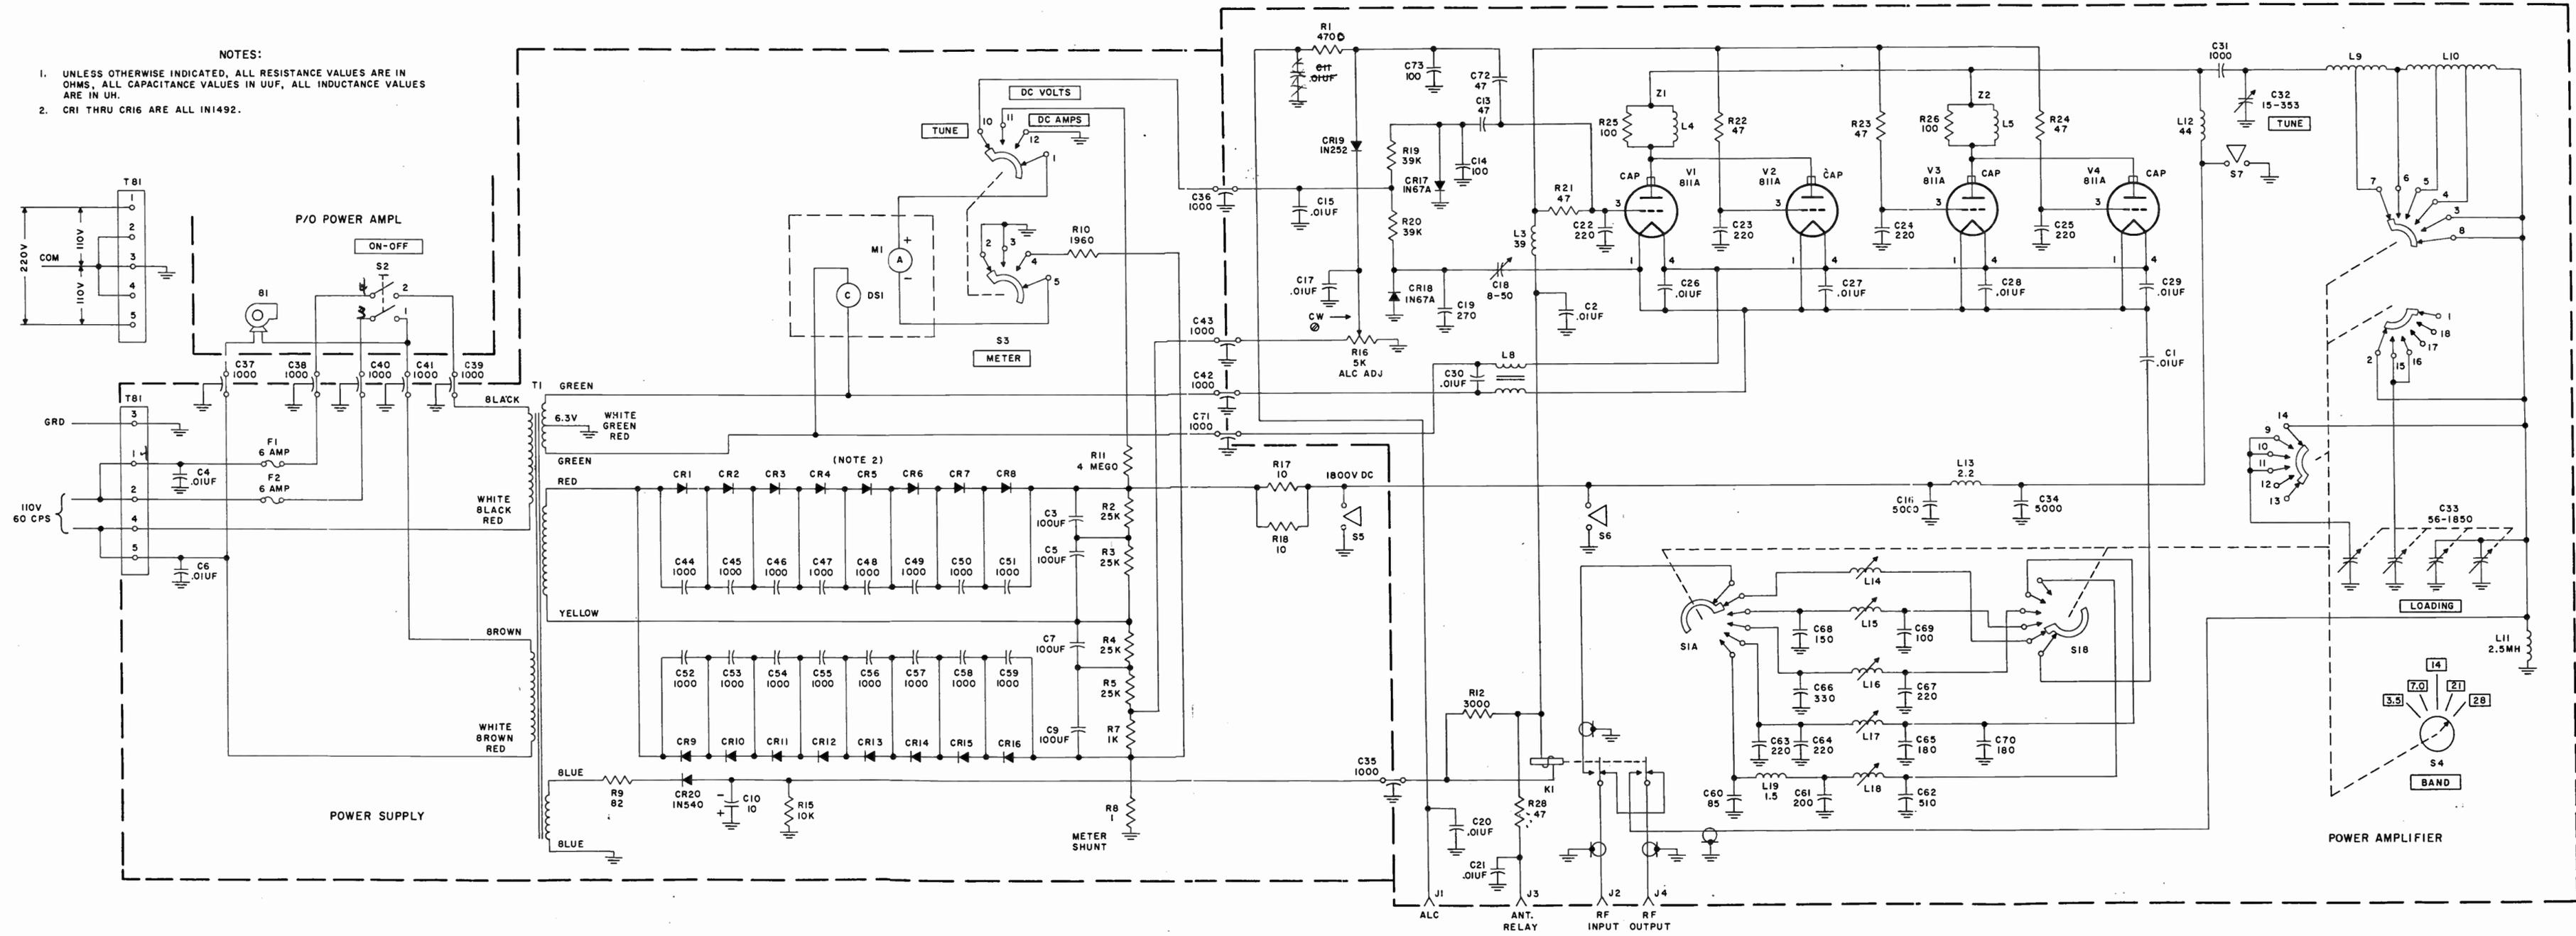

Figure 7-1. 30L-1 Schematic Diagram
- ✓ Refer to Parts List and Figure 7-1. Change R1 to 4700 ohms. Delete C11.
Refer to Figure 7-1. Change schematic to show F1 connected to terminal 4 of S2 and F2 connected to terminal 3 of S2. This is the reverse of the way these connections are presently drawn. To connect the primary for 230-vac operation, ignore the connections to TB1 which are shown in Figure 7-1. Remove the jumpers from terminals 1 to 2 and 4 to 5, and wire as indicated in detail A below. Note that C4 is moved from terminal 1 to terminal 2.
Refer to Parts List and Figure 7-1. Add C8 and C12 (same as C3), and R6 and R13 (same as R2). Change schematic as indicated in detail B below. Resistor R4 is now R5, and R5 is now R6.
✓ Refer to Parts List and Figure 7-1. Change R1 to 4700 ohms. Delete C11.